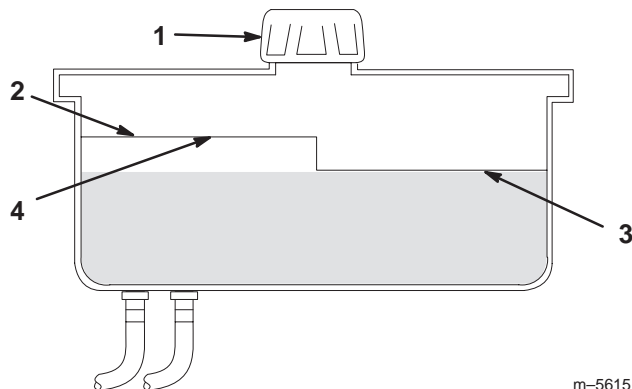

Figure 53
2. Clean area around filler neck of hydraulic tank (Fig. 53).
3. Remove the cap from the filler neck. Look inside to check if there is fluid in the reservoir (Fig. 53).
Note: The fluid level should be to the top of the **hot** level of the baffle, when the fluid is hot (Fig. 53).